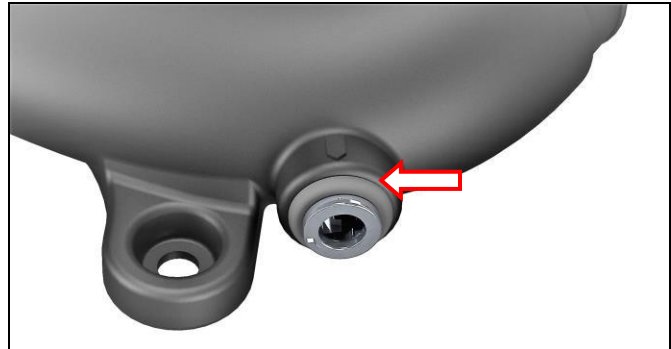

Figure 8
14. Install supplied grommet and air temp sensor fitting into the INTECH tube. **NOTE: Aluminum temp sensor fitting has an alignment dimple that when properly installed, should be facing up to align with marker on tube (Figure 8).** Soap and water or equivalent will help with this process.